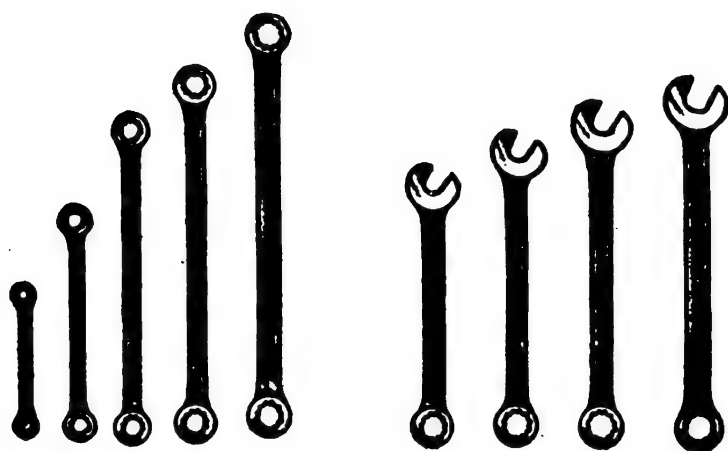

Figure 18.—A set of box and combination wrenches.
**MAJOR ADVANTAGES OF THE BOX WRENCH**—there is no chance of the wrench slipping off the nut and it can't spread on the nut. Because the sides of the opening in a box wrench are so thin, it is ideally suited for nuts which are hard to get at with an open-end wrench. Figure 18 will give you an idea of a typical set of box wrenches.